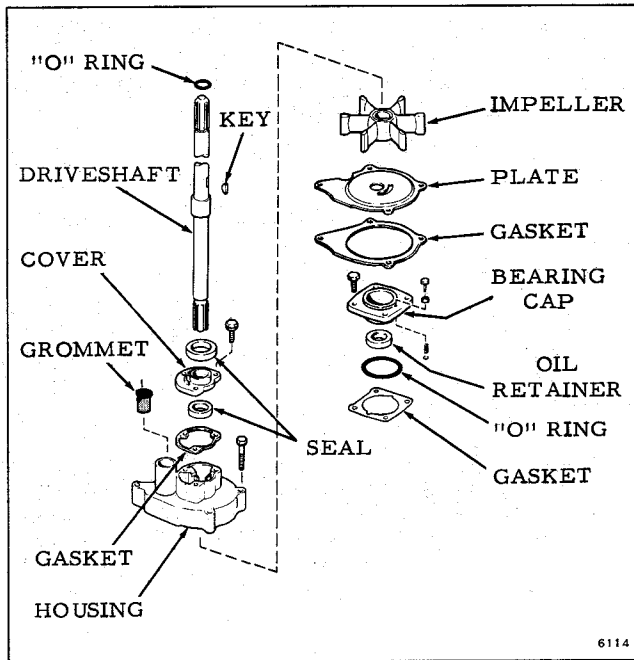

Figure 6-32. Water Pump - Standard Gearcase
r. Install impeller housing. Dip screws in Perfect Seal No. 4 and tighten to specified torque. Attach cover, using new gasket, seal, and seal rings. See Figure 6-32. Dip screws in Perfect Seal No. 4 and tighten to specified torque. Install new grommet in impeller housing to prevent exhaust gases from getting into the cooling system, causing overheating and pre-ignition. It is especially important that the impeller housing seal ring fit properly to prevent exhaust gases from feeding back into the intake manifold through the driveshaft tube. Install new "O" ring on driveshaft.